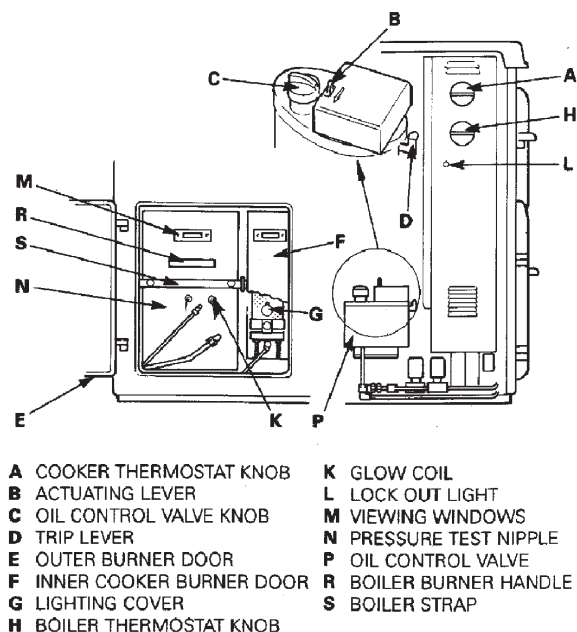

Fig.1.
- 1. Depress the trip lever **D** - see Fig. 1 on the front of the oil control valve **P** and turn the cooker oil control valve knob **C** to No.6 setting.